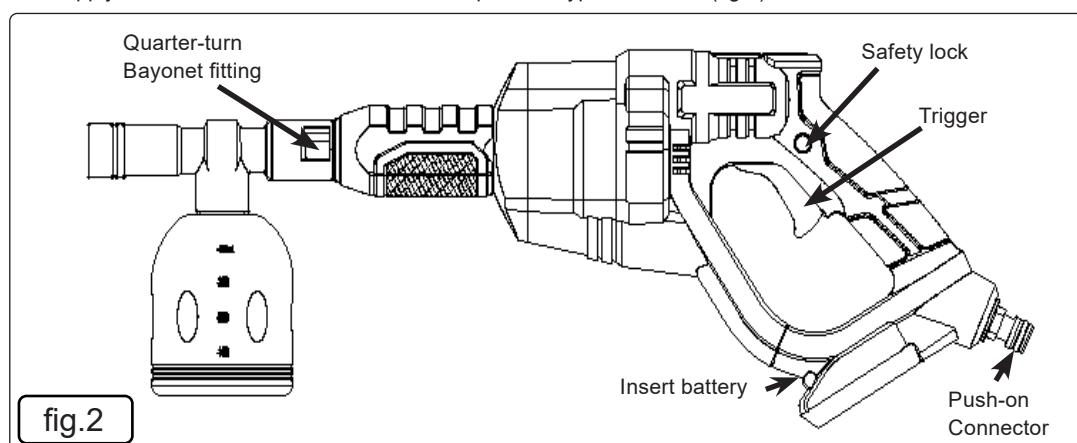

fig.2
4.1.1. Both items connect to the hand unit via a bayonet type quarter-turn connector (fig.2).
4.2.1. The supply hose connects to the main unit via a push-on type connector (fig.2).
- 5.2.2. To start spraying, hold down the safety button (fig.2) and depress the trigger (fig.2) fully. When the trigger is released, the motor will switch off automatically.